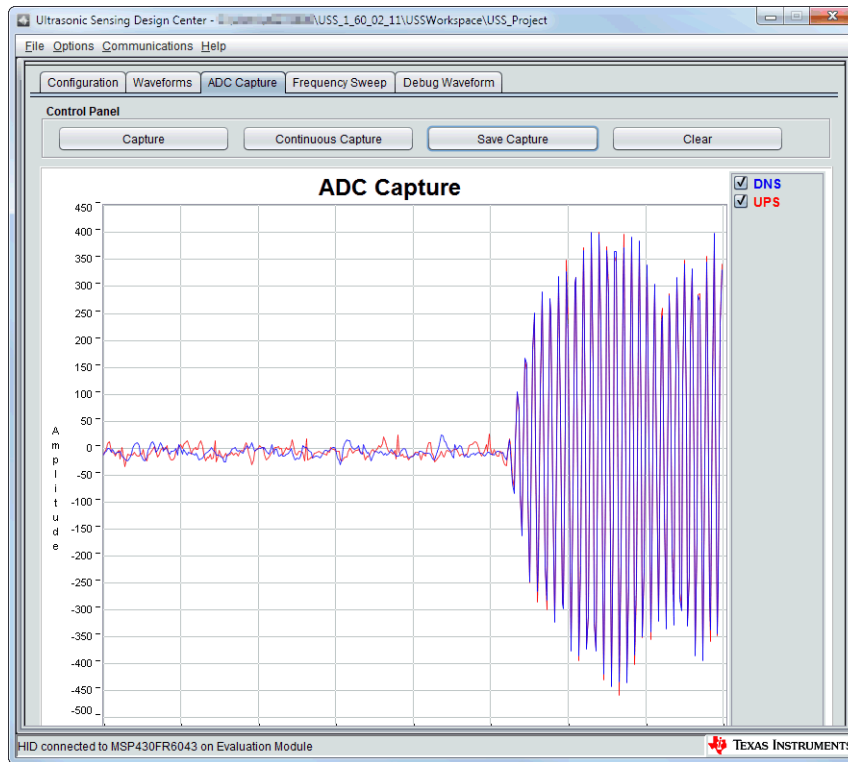
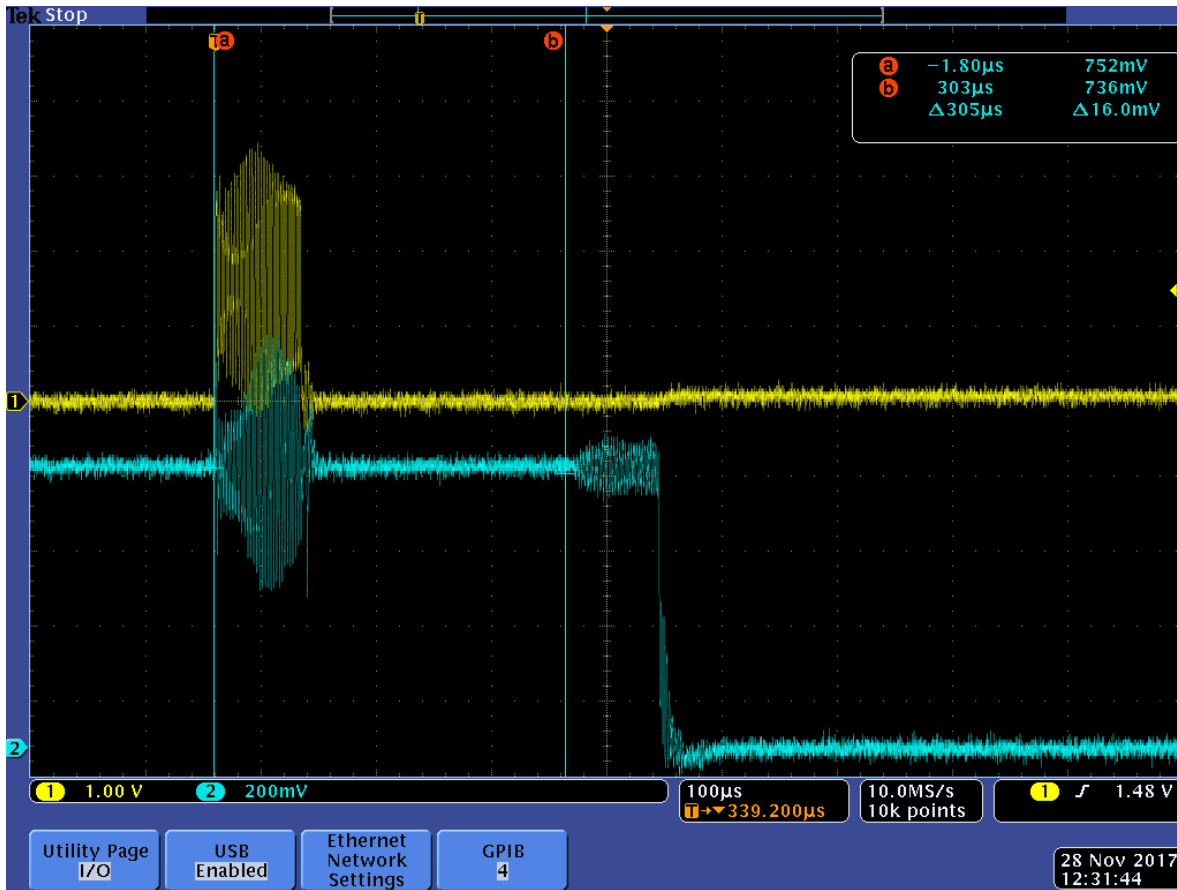

Figure 8. Incorrect ADC Capture
Figure 10. Unadjusted Signal in Oscilloscope
The ADC Capture might be incorrect due to factors such as propagation time, transducer frequency, and gain (see Figure 8).
6. Observe the signal in the oscilloscope. **Figure 10** shows that it takes approximately 305 μs for the signal to arrive to the ADC input (in blue). Because of this, the signal is not received completely.
- a. As observed in **Figure 8** and **Figure 10**, the biggest problem with the current configuration is that the ADC capture is occurring too early. This parameter can be adjusted using the “Gap between pulse start and ADC capture”.